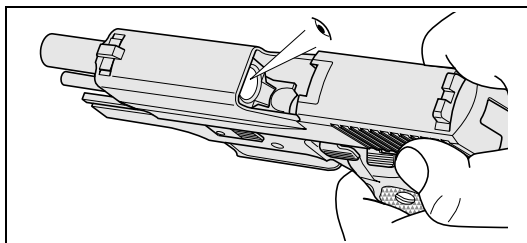

Fig. 3
5. Check visually and manually with a tool that the round was ejected and that no other round is chambered (see Fig. 3).
3. Check that no round is chambered (see Fig. 3).
4. Thumb down takedown lever **16** (see Fig. 3).
6. Hold slide **4** firmly and allow it to glide forward (see Fig. 3).